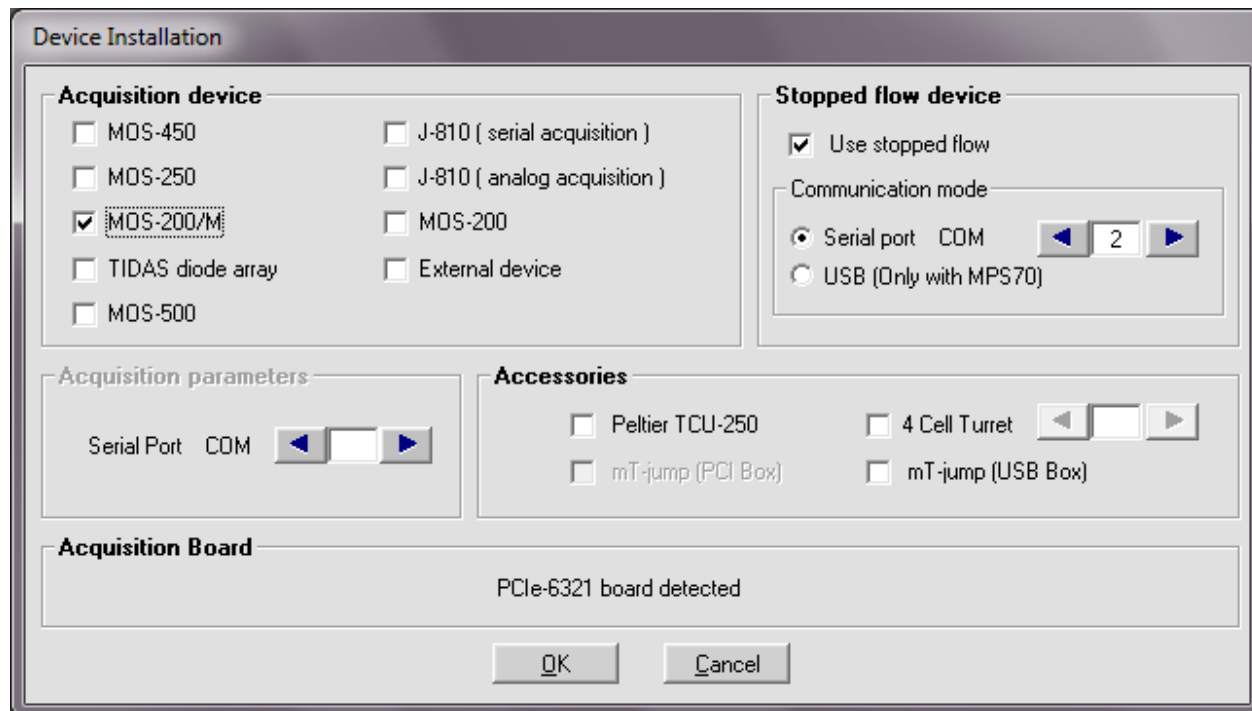

Figure 115: MOS-200/M installation
- From the Install, Device menu choose MOS200M: see Figure 115.